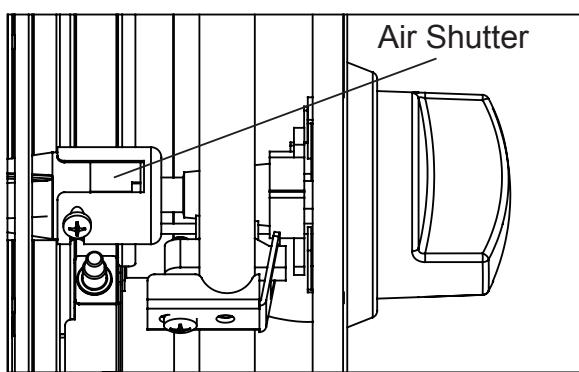

Fig. 30 Air Shutter
- a. Loosen the air shutter. The shutters are located on the end of the gas burners underneath the control box. See Fig. 30